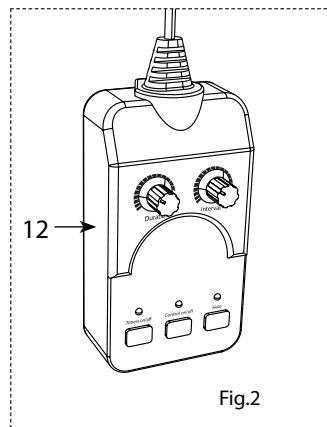

Fig.2
14. REMOTE CONTROL (included, fig.2);
The remote control (fig.2) allows to control different functions.